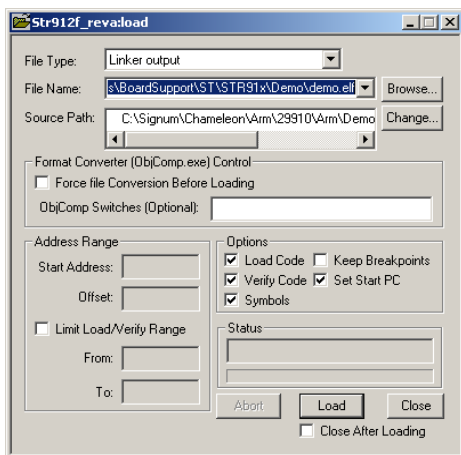

FIGURE 97 Load File dialog box
5. The Chameleon installation includes a small demo program for the Rainsonance STR912F devices. The program is written in C and performs simple functions and LED blinking. To load the demo program (FIGURE 97), select File | Load from the main menu and select the demo.elf file located in the folder: